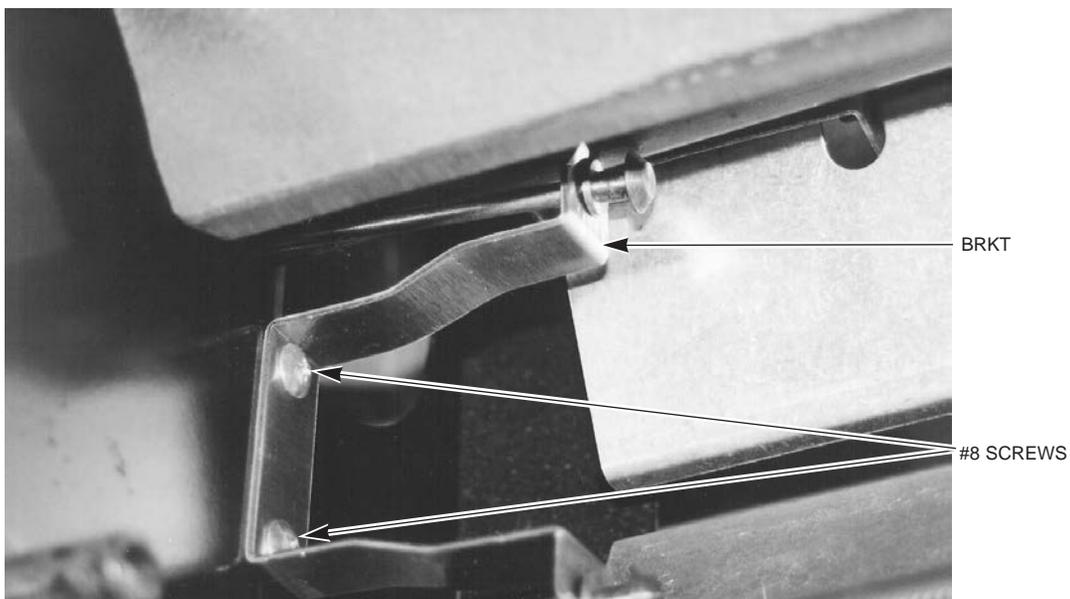

**Fig. 9**
2. With a large flat blade screwdriver, remove (2) 1/4-20x1/2"L screws (per burner sections) securing the support to the back wall of the burner compartment. (Fig. 9)